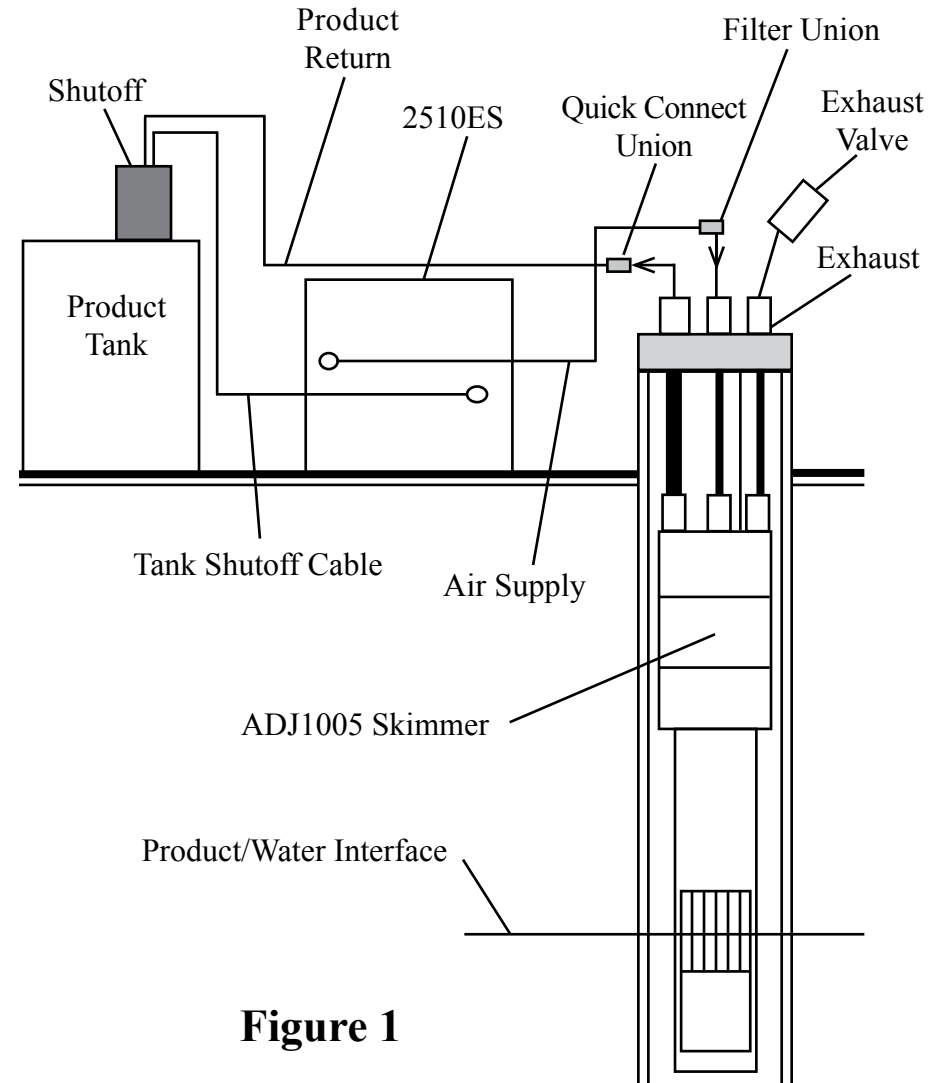
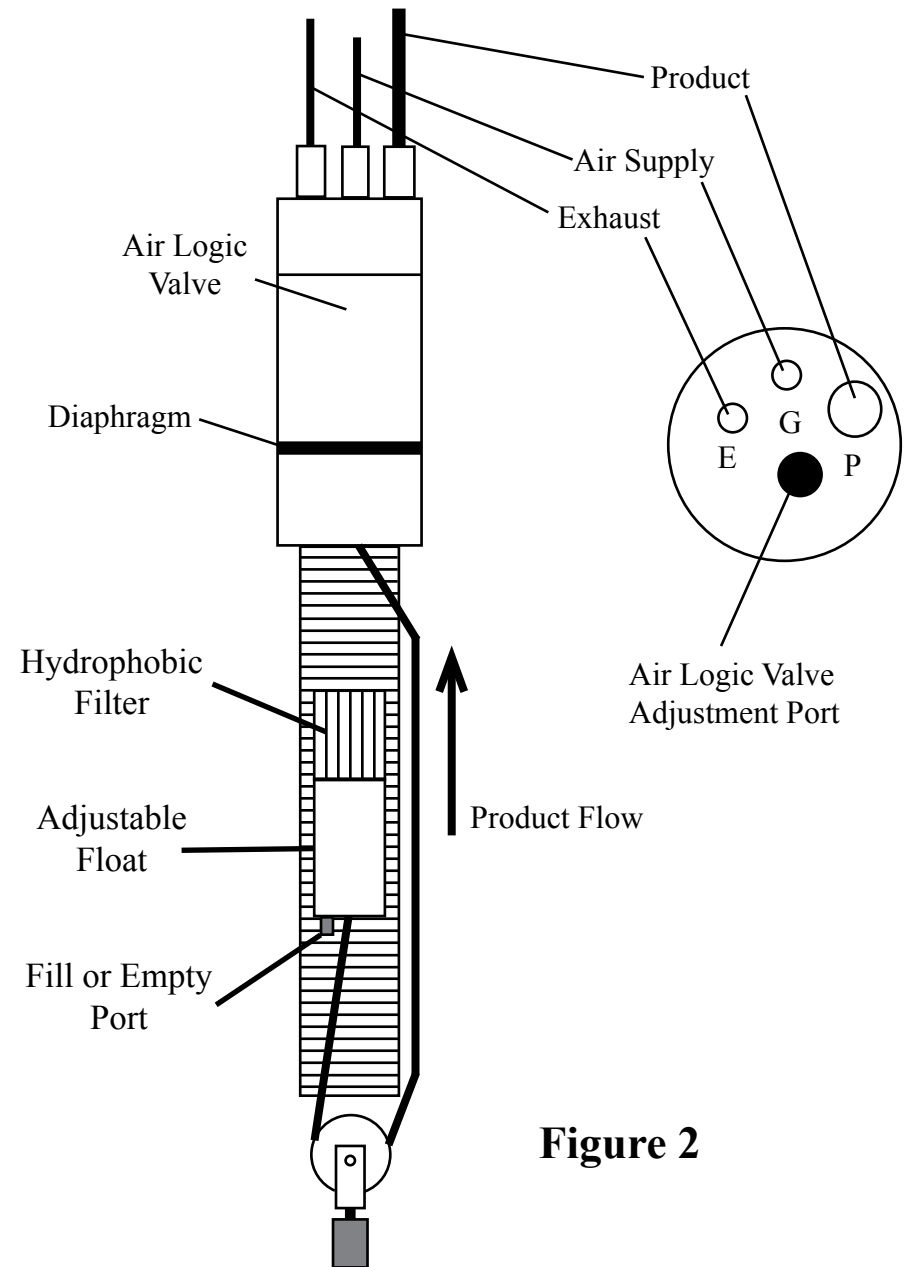

Figure 1
Figure 2
The system (Figure 1) relates to floating hydrocarbon recovery in wells four inches in diameter and larger. This system includes: an intrinsically safe ADJ1005 pneumatic Smart Skimmer, with an adjustable float (Figure 2), which removes only the product to a sheen down to 200 feet deep; and a electronic Control Station Model 2510ES which operates the skimmer intermittently, records run time, and has a high level tank shutoff.
STEP 1. Place electronic Control Station Model 2510ES (Figure 1) near the air source, power source, and holding tank if possible. **CAUTION:** The standard electronic controller is NOT intrinsically safe. If this controller must operate in a CLASS I area, the XITECH Model 2550ES CLASS I controller will be required.
STEP 2. Install holding tank shutoff assembly into holding tank (a 2" standard pipe inlet will be required in the holding tank). The level of product in the holding tank can be set by raising or lowering the liquid level float switch rod. Plug the high level shutoff switch cable connector into the left end of the controller (Figure 1).
STEP 3. Attach power line from the AC power source to the right end of the control station (Figure 1). Turn on the controller power switch. If the red "Product Tank Full" light stays on, you have a problem with tank shutoff wiring. Turn off the power switch and re-check the tank shutoff wiring. If the light continues to stay on, call the factory.
STEP 7. Position the skimmer and well cap on the ground near the well. **NOTE:** If the skimmer is over 60 feet deep, use a vented design skimmer. Cut a length of 3/8" OD air supply tubing to cover the distance from the top of the well down to water/product interface, plus 5 feet. Slide enough tubing through the well cap and attach the end of the tubing to the top of the skimmer tube fitting labeled "G" (Figure 2). If the product thickness is greater than 1 foot, position the skimmer's "Black Reference Line" on skimmer well screen 1 foot below top of product. If the product thickness is less than 1 foot, position the skimmer's "Black Reference Line" on skimmer well screen at the water/product interface.
STEP 8. Cut a length of 1/2" OD product tubing same length as the air supply line. Install 1/2" OD product tubing through the well cap tube fitting labeled "P" (Figure 2). Slide enough tubing through the well cap and attach the end of the tubing to the top of the skimmer tube fitting labeled "P". **CAUTION:** Do not kink the tubing.